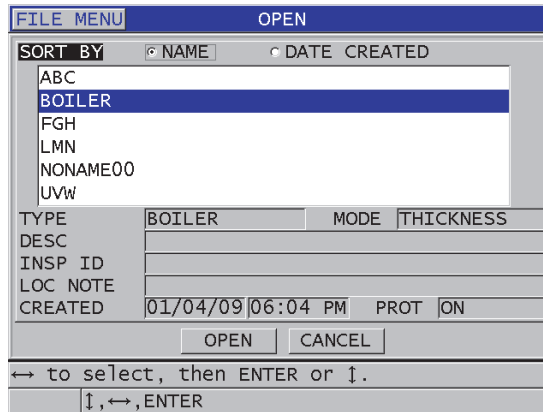

Figure 11-16 Opening a file
3. In the **OPEN** screen (see Figure 11-16 on page 205):